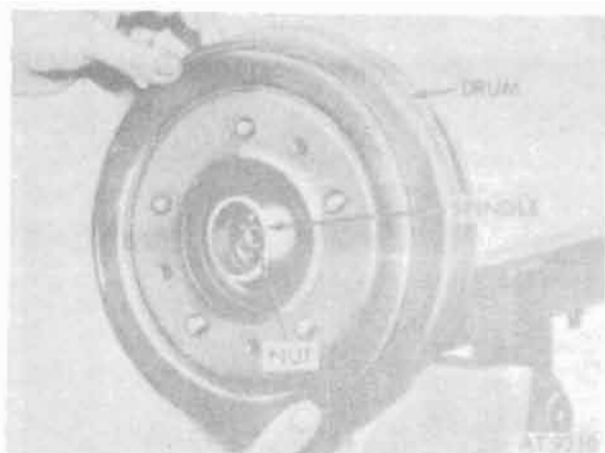

Figure 11-11. Rear wheel brakedrum.
e. Remove brakedrum from spindle (fig. 11-11).